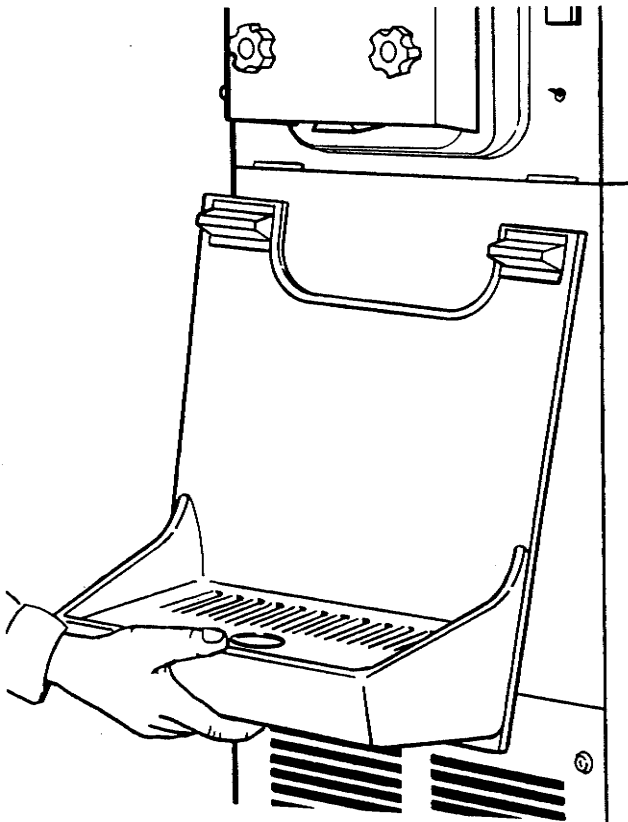

Figure 31. Removing Drip Tray and Insert
1. Remove the drip tray and insert by gently pushing up to disengage from the support pins and pulling out and down. (Fig. 31).